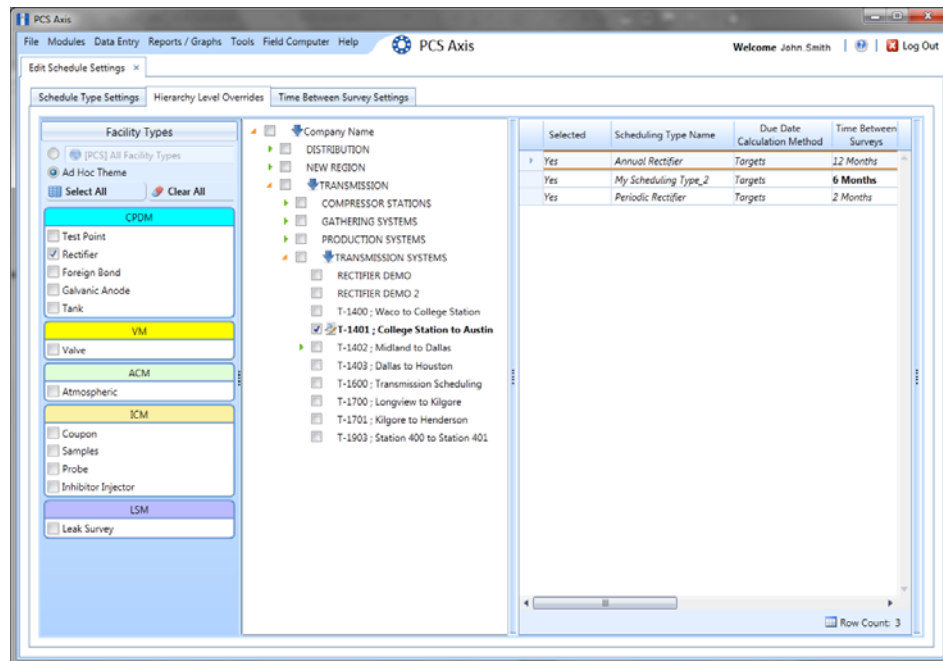

Figure 8-8. ROW Selection(s)
- 4 Select the ROW(s) you want to work with by clicking the check box for each ROW in the middle pane of the *Hierarchy Level Overrides* window (Figure 8-8).